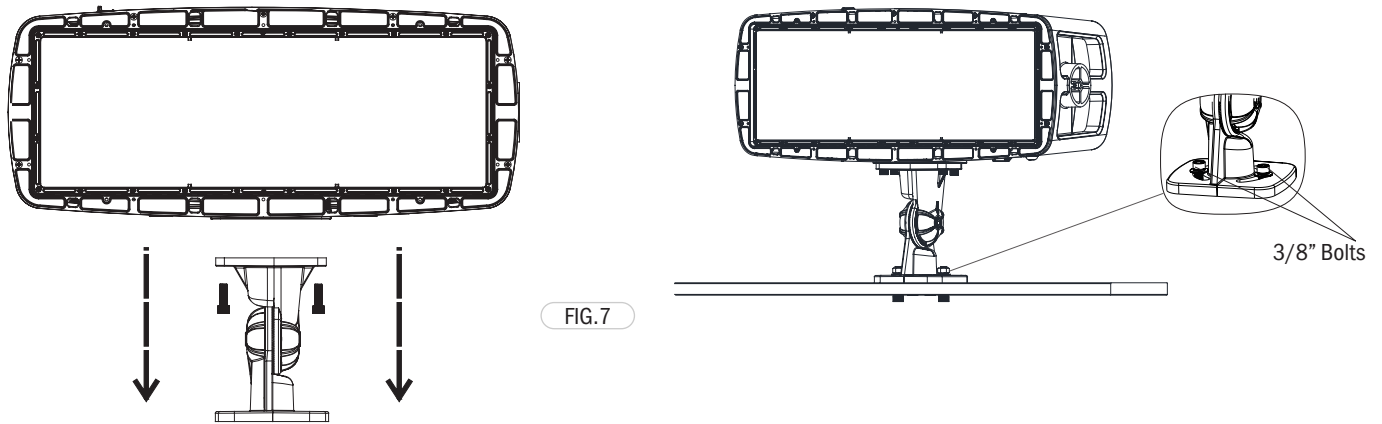

FIG. 7
- 1 Attach the knuckle bracket to the fixture as shown (Figure 7). The knuckle bracket allows for an adjustable projection angle within a specified range.